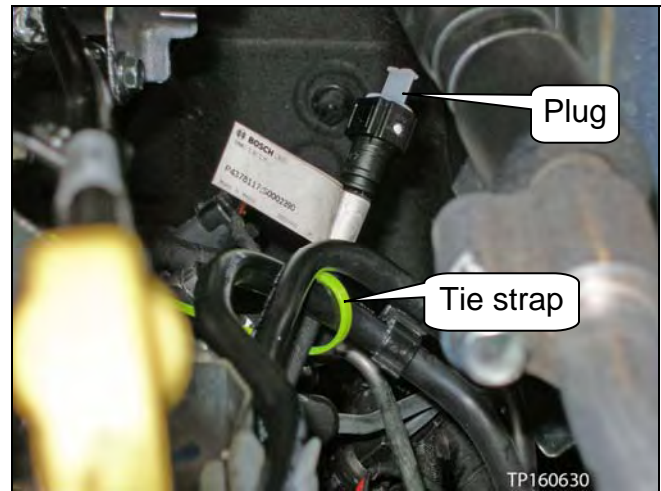

Figure 24
d. Carefully move and secure the fuel line out of the way with a tie strap (see Figure 24).